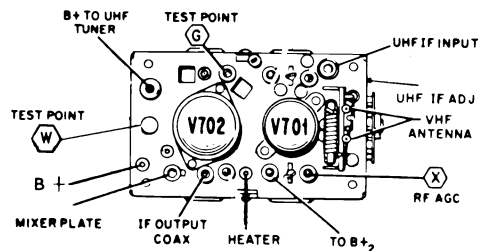
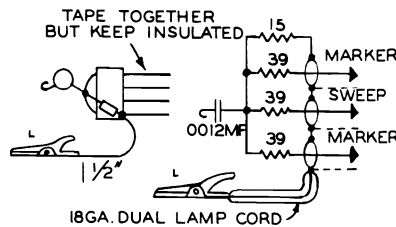

Fig. 2 TOP DRAWING OF VHF TUNER
Fig. 4 MIXER GRID MATCHING PAD
Using needle nose alligator clip or looped end of hookup wire, connect matching network shown in figure 2 to test point "G", low side directly to tuner, see figure 4. Connect signal generator to matching pad.
3. Connect sweep generator to VHF tuner to test point "G" through the generator matching network of figure 4. Ground low side nearby.
6. Adjust T-3 top and bottom simultaneously for over-coupled response as shown in Fig. 2. (Use core positions nearest outside ends of coil.) With input signal maintained to produce 2 volts P-P output during final adjustment, bandwidth markers should fall between the tolerances indicated.